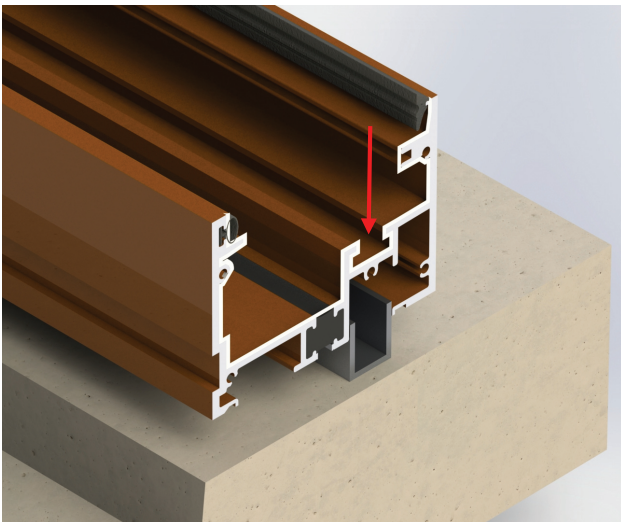

Fig. 8
- C. Set the sub-sill over the U-channel. (Fig. 8)